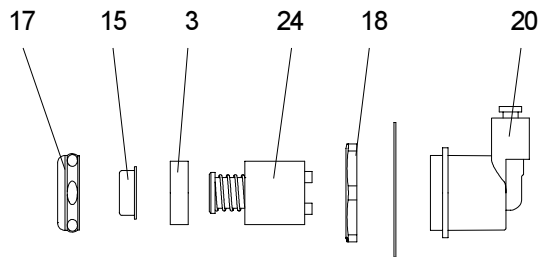

FIG. 7
See Fig. 7
8. Open service stop and operate push button to purge air from system. Check thoroughly for leaks. Check stream height from bubbler. Stream height is factory set at 45-50 PSI. If supply pressure varies greatly from this, remove items 15 and 17 and adjust screw on regulator (item 24) see figure 7. Clockwise adjustment will raise stream and CCW adjustment will lower stream height. For best adjustment stream height should be approximately 1-1/2" (38mm) above the bubbler guard. (See Fig.11).